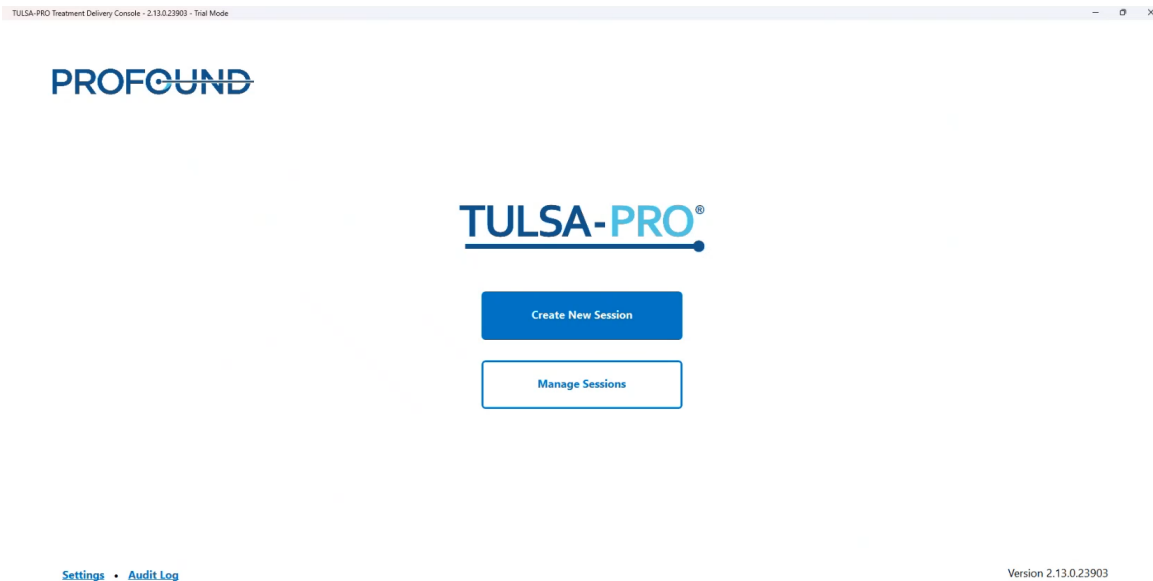

Figure 7: TULSA-PRO Start Screen
2. After synchronizing the system clocks, the **Start Screen** will appear (*Figure 7*). Click **Create New Session**.